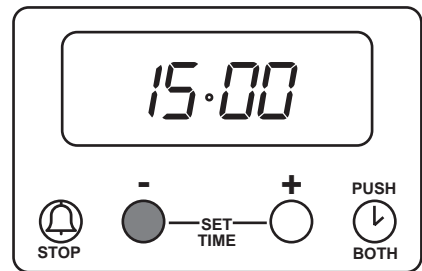

Fig. 9
The cookpot symbol (⏲) will go out. See Fig. 9. If using the oven it will come on again once button (1) has been depressed. When cooking is complete remove food and turn OFF oven temperature control.